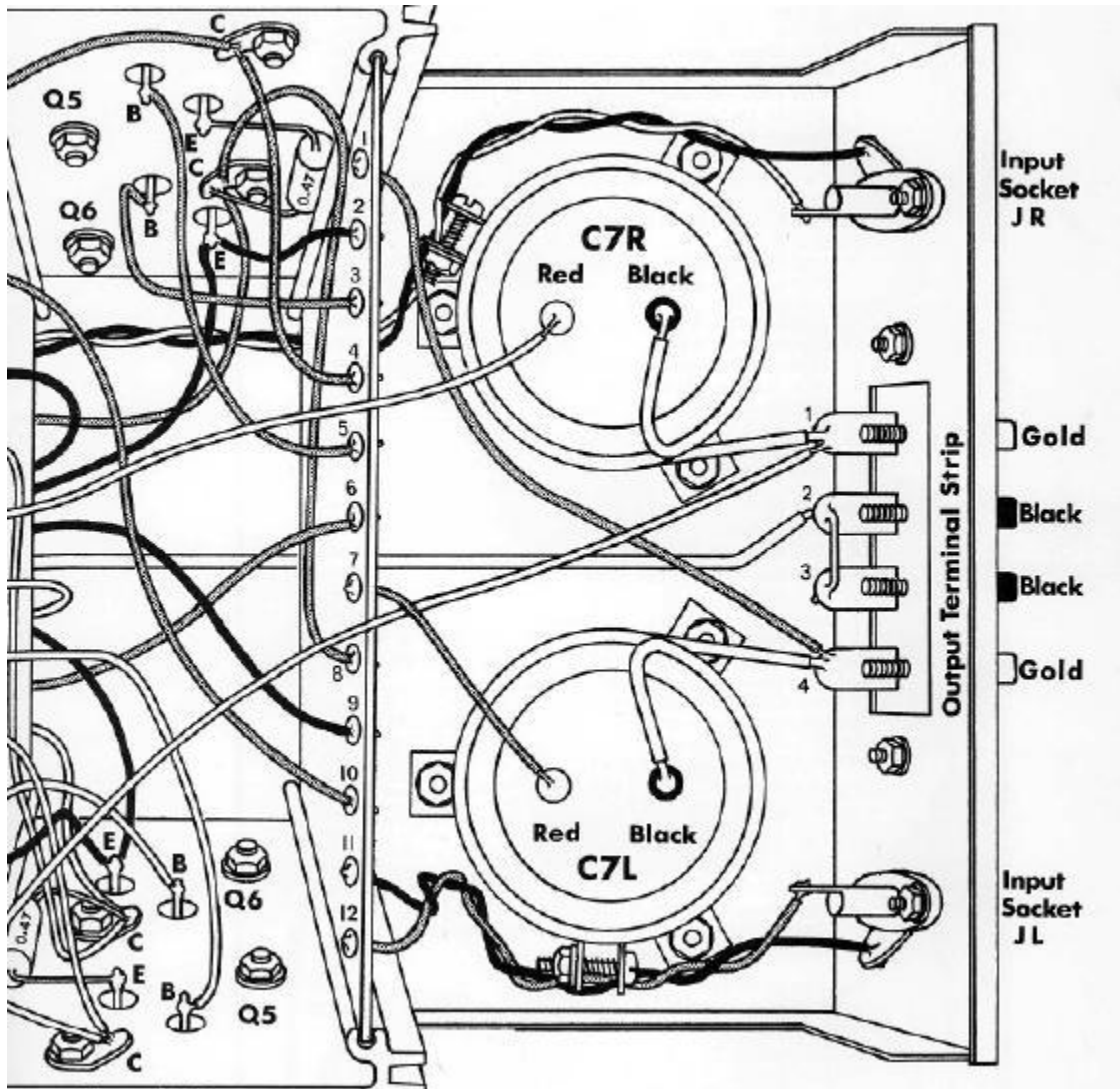

Figure 6-Detail for C7
The following procedure applies to both the left and right channel C7's. Refer to Figure 6.
1. Note the clamp position as shown in Figure 6.